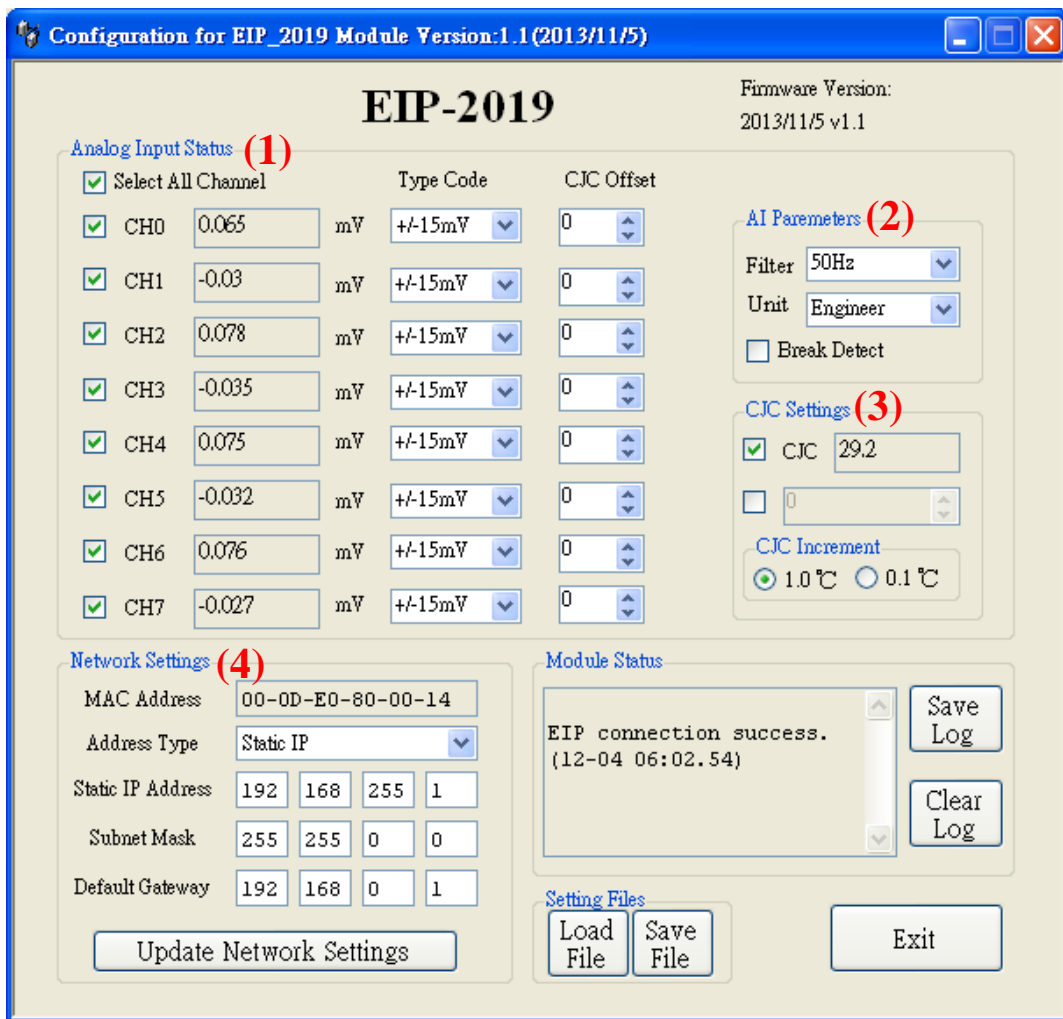

Figure 4-2 EIP-2000 Utility configurations
3. Click the **EIP-2019** or other **EIP-2000** modules on the device list below to open the configuration dialog of **EIP-2000**. Each EIP-2000 module has its own configuration interface. Please refer to Figure 4-2.